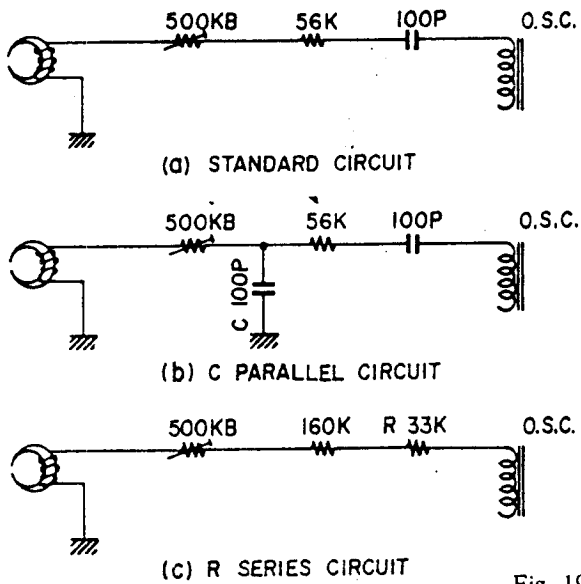

Fig. 19
2. On machines employing the bias adjustment circuits shown in (b) and (c) of Fig. 19, after the Rec/Playback Head has been replaced, it becomes impossible to adjust the bias voltage. In this case, replace with the circuit shown in (a) of Fig. 19 and adjust bias voltage.